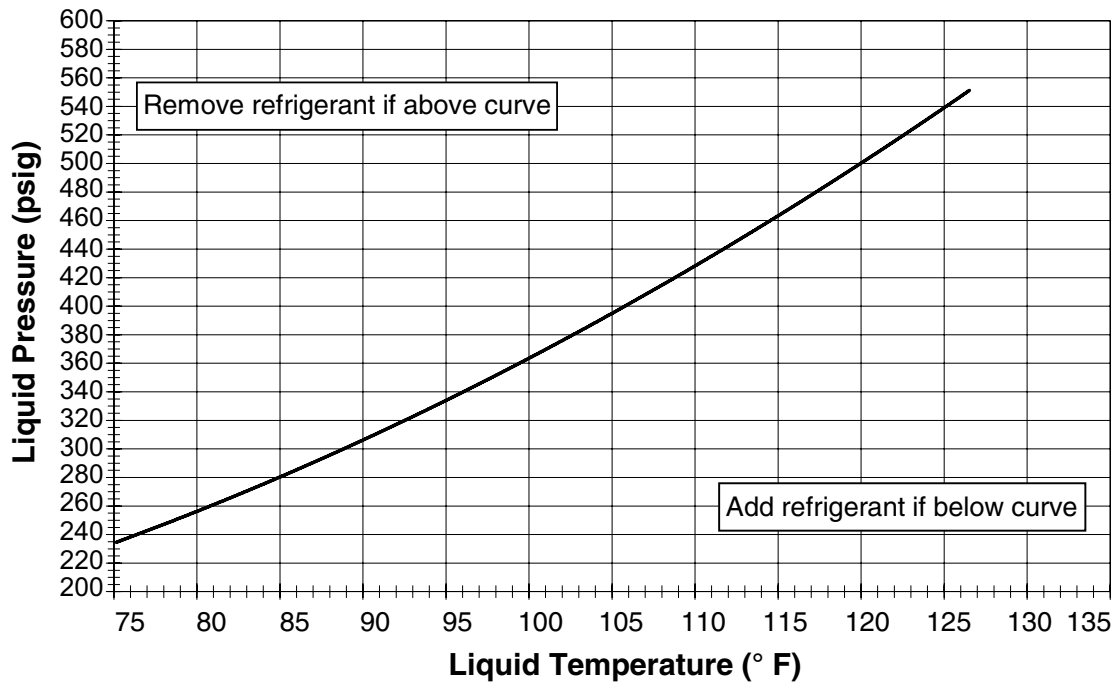
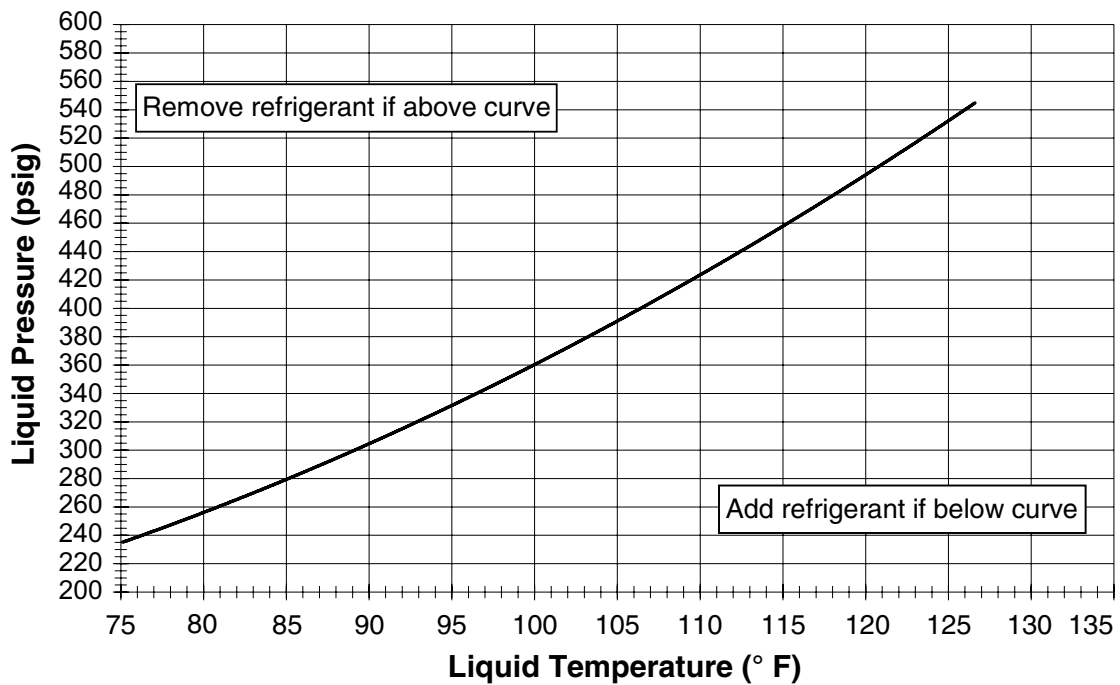
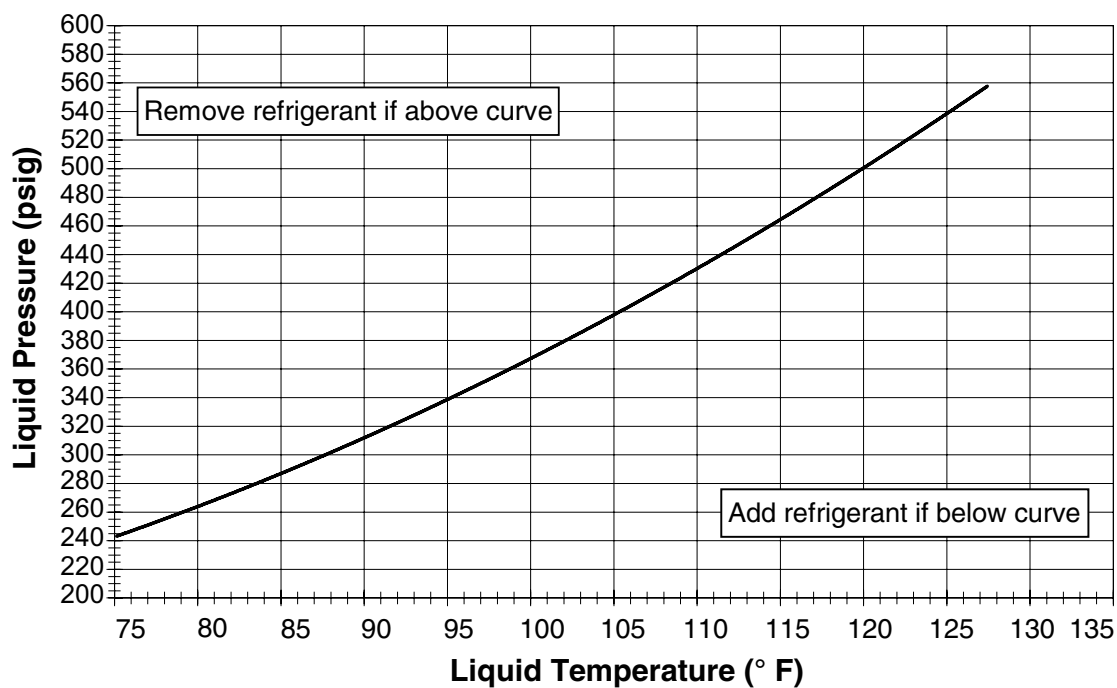
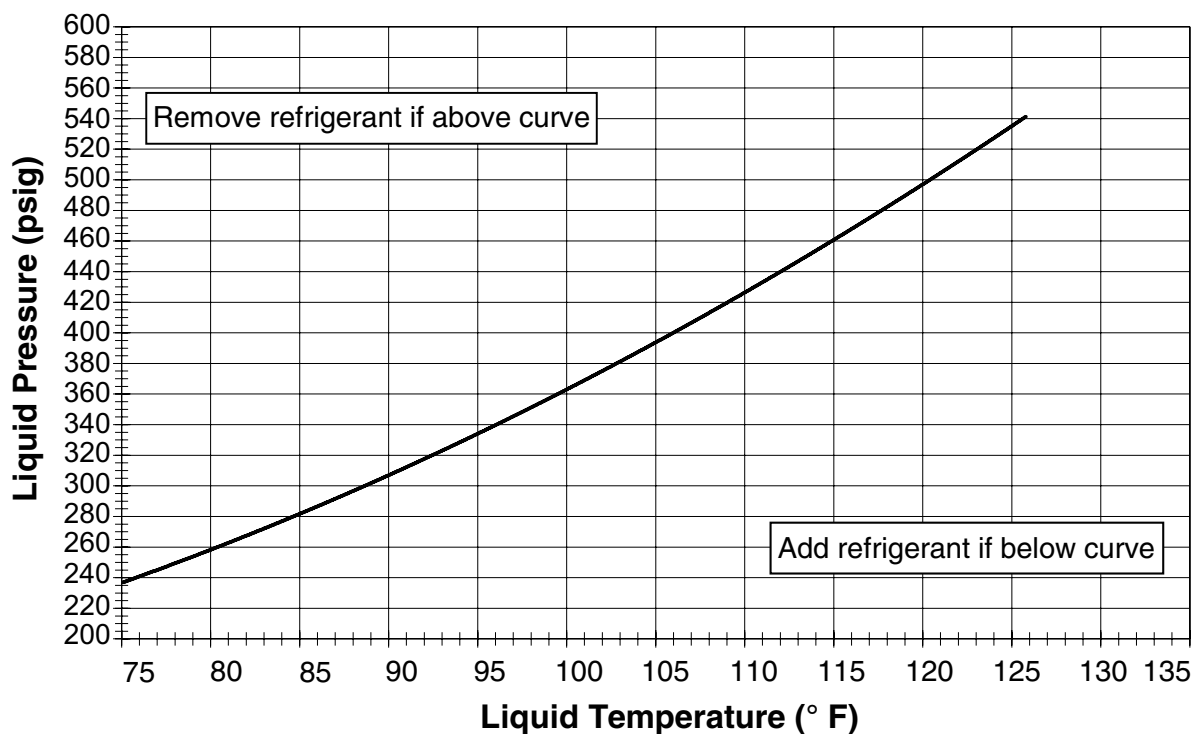

Figure 5. Charging Chart for 2 Ton Models
Figure 6. Charging Chart for 2.5 Ton Models
Figure 7. Charging Chart for 3 Ton Models
Figure 8. Charging Chart for 3.5 Ton Models
- Refrigerant charging charts are applicable only to matched assemblies of this equipment and listed airflows for the indoor coil. For correct system charging, refer to Figure 5 \(page 9\), Figure 6 \(page 9\), Figure 7 \(page 10\), Figure 8 \(page 10\), and Figure 9 \(page 11\).
3. Determine the appropriate liquid refrigerant pressure from Figure 5, Figure 6, Figure 7, Figure 8, and Figure 9.
- Before using these charts, make sure the unit is in a stable operating mode. As shown in the charts the ideal system sub-cooling can vary over the range of operation. Reference Figure 5 \(page 9\), Figure 6 \(page 9\), Figure 7 \(page 10\), Figure 8 \(page 10\), and Figure 9 \(page 11\) to determine the ideal amount of sub-cooling for a given liquid pressure. Units charged to other values will not perform at the rated unit efficiency (EER) or rated Coefficient of Performance (COP) in heating mode.